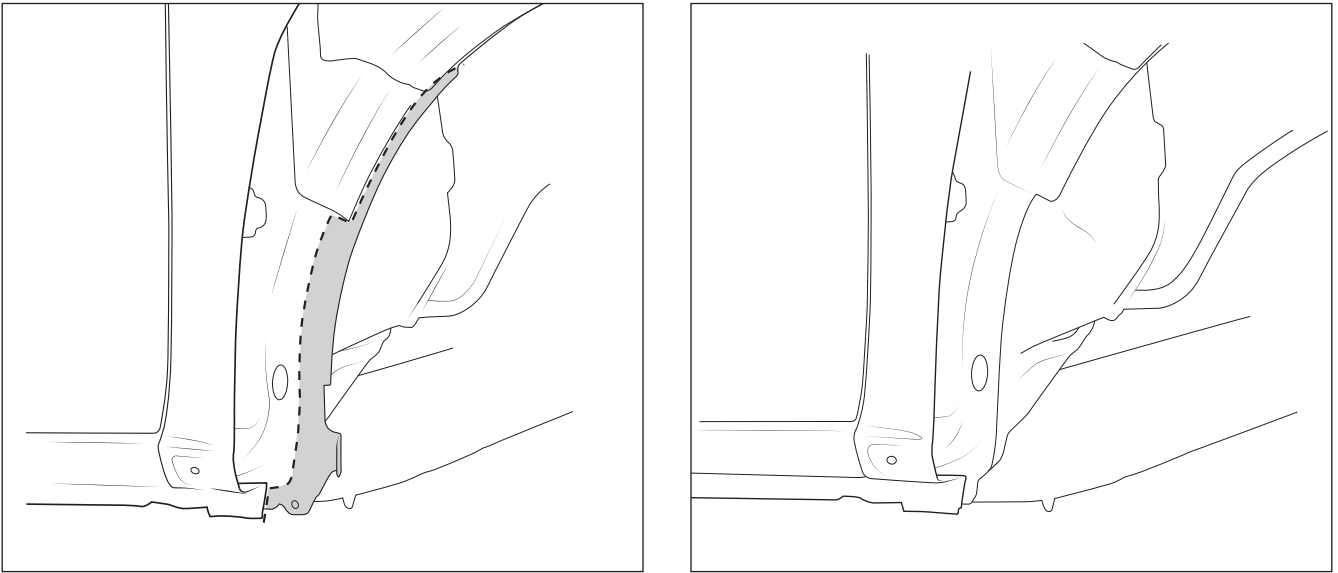

Figure 8 (Left) Before (Right) After
12. Cut the pinch seams at the rear of the wheel wells and remove the shaded material (fig. 8).